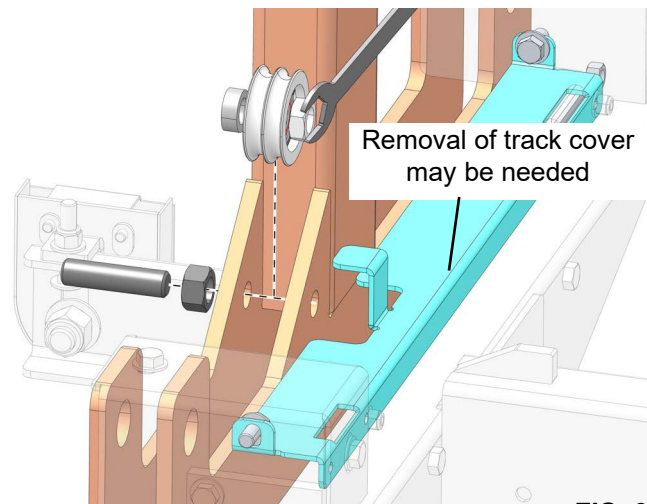

FIG. 3
3. Install lower feed pulley with (1) spacer in drive side upright frame as shown in FIG. 3